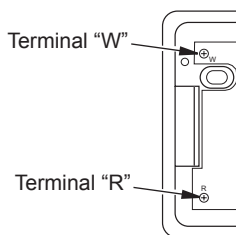

Figure 24 - Thermostat Base Terminals "W" and "R"
6. Connect one bare wire end to each terminal ("W" and "R") of the thermostat base (see Figure 24).